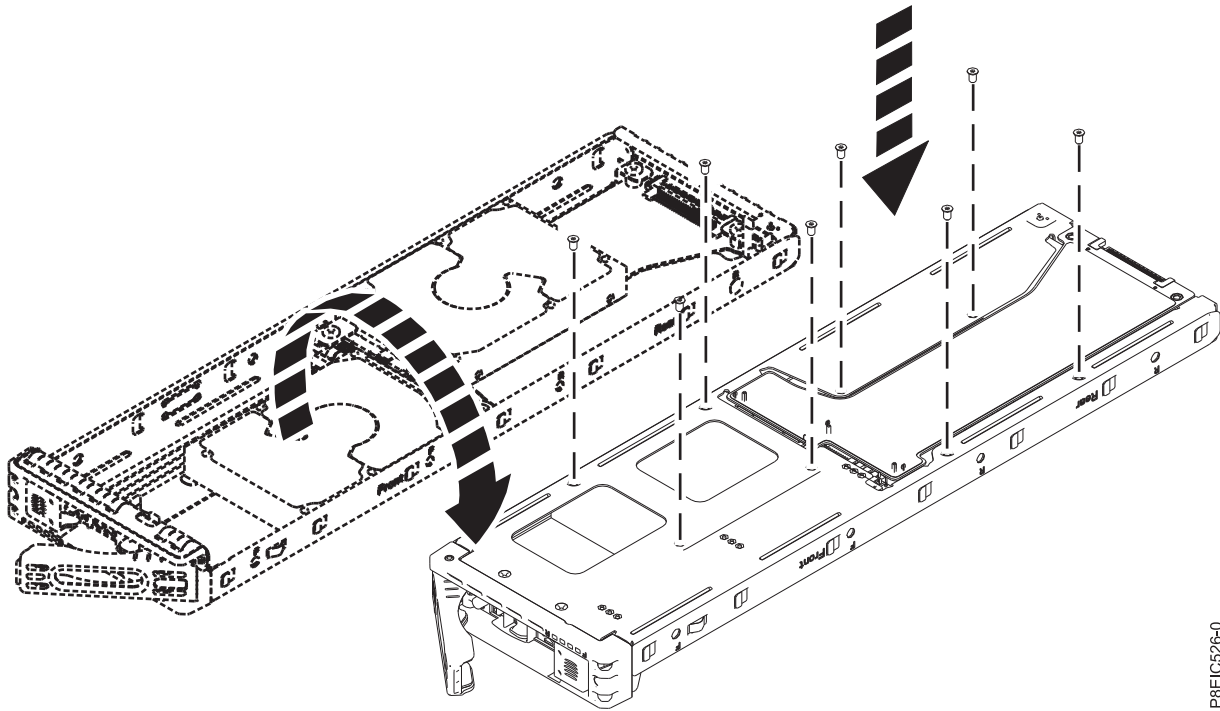

Figure 15. Screw locations for the 2.5 inch drive
- c. Fasten the drive to the bottom of the tray by using four screws, as shown in Figure 15.